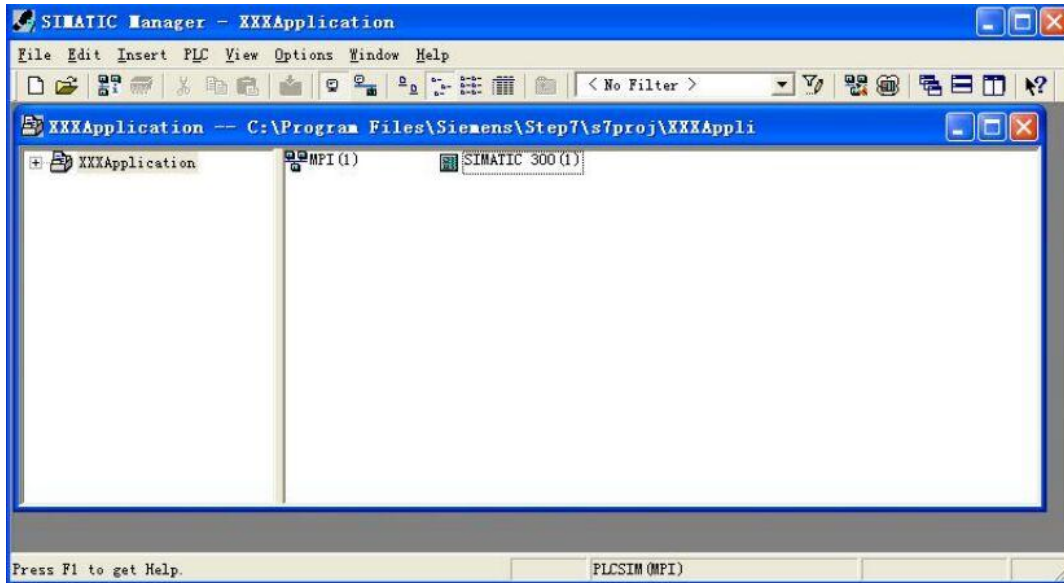
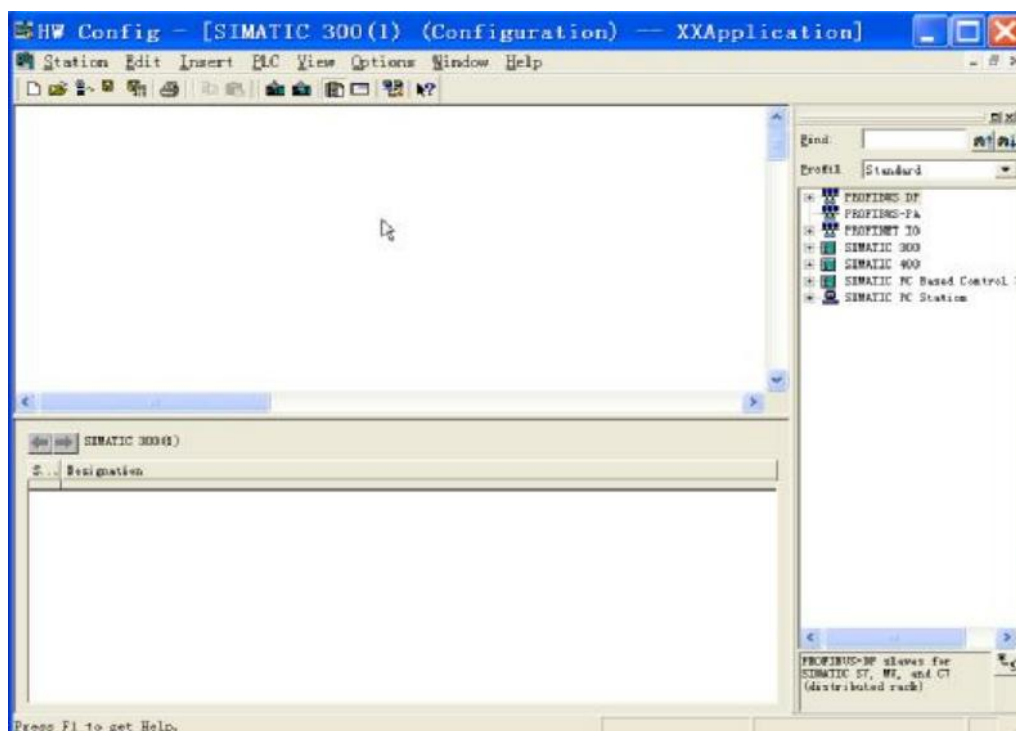

Figure 3
Figure 4
See figure 3.
(5) After double-clicking "SIMATIC 300(1)" from Figure 3, and then double-clicking "Hardware", see Figure 4.